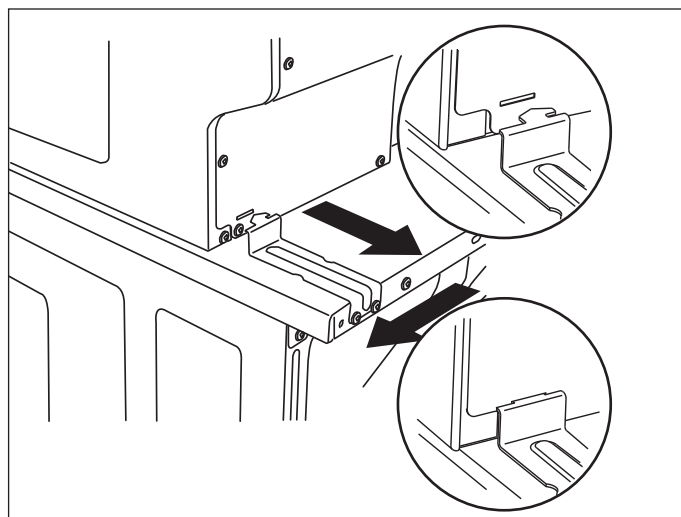

Figure 2-55.
3. Slide hook tabs on rear brackets into slots in back sheet of dryer. Dryer will be approximately 1/4" left of center. Continue sliding dryer back until tabs are fully engaged. (See Figure 2-55)